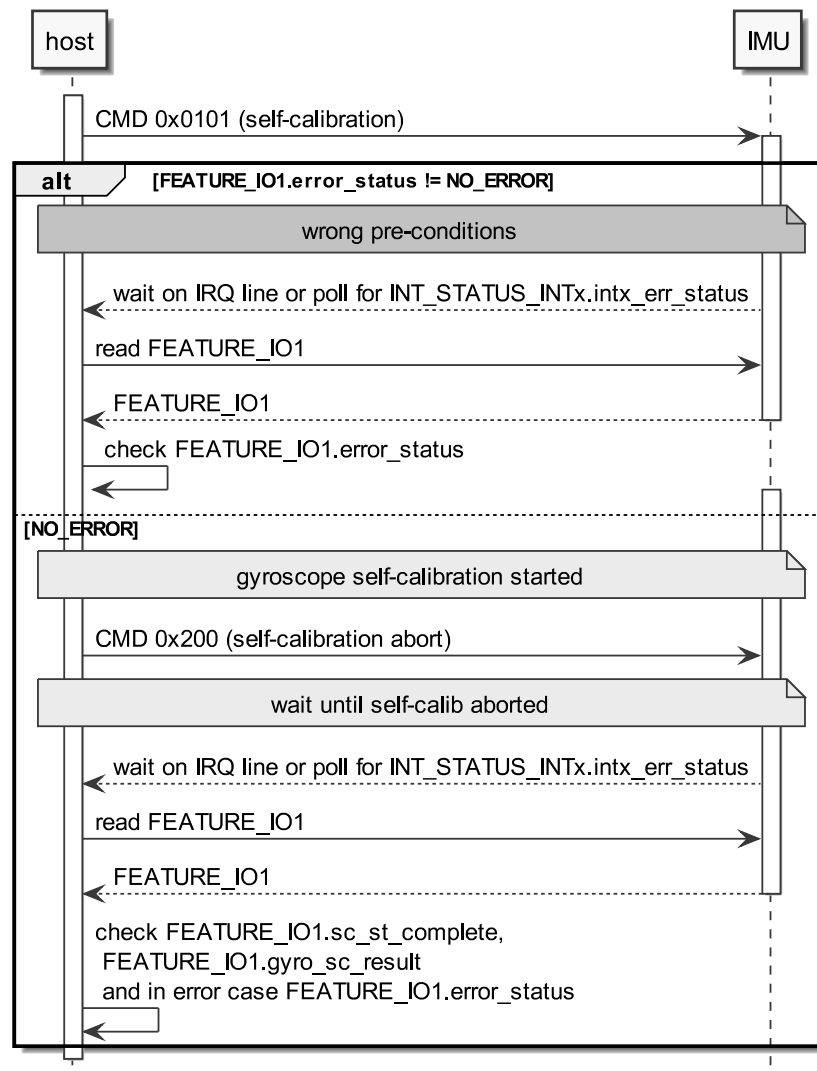

Figure 27 : Self-Calibration Abortion Sequence
**Abort the Self Calibration** A running self-calibration can be aborted by sending the command 0x0200 to CMD. Then, FEATURE\_IO1.state can be checked for any state different than 0b01 and the device reports in FEATURE\_IO1.error\_status the value 0x9. The sequence to abort the self-calibration is detailed in Figure 27.